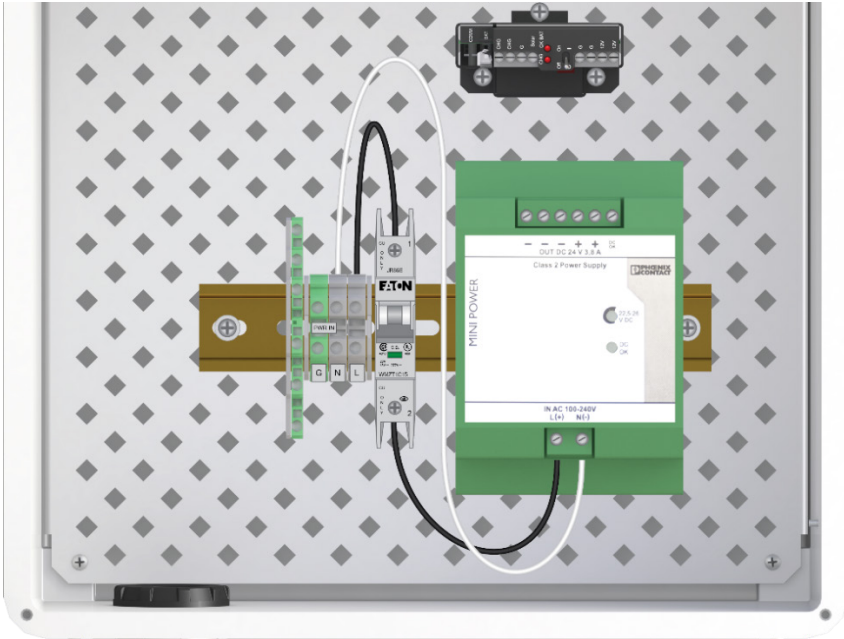

FIGURE 5-5. Connecting the N (Neutral) terminal block to the power supply
- 4. Connect a white 14 AWG wire between the N (Neutral) terminal block and the N(-) terminal on the power supply (FIGURE 5-5).